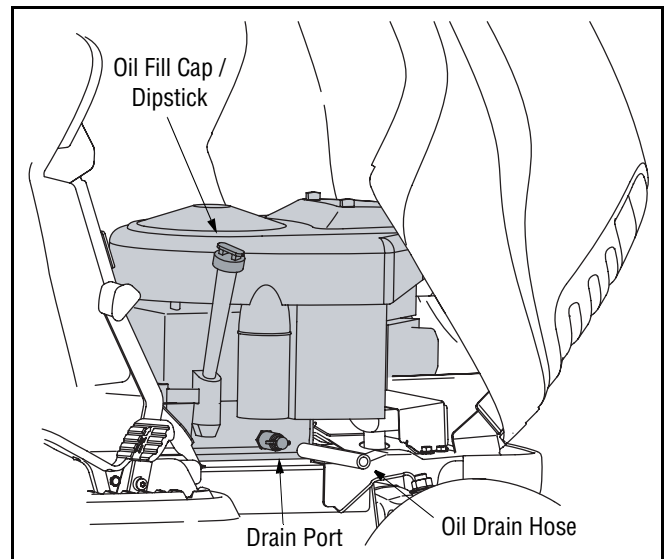

Figure 13
- Pop open the protective cap on the end of the oil drain valve to expose the drain port. See Figure 13
- **Slowly** pour oil into the fill tube. Fill the crankcase until the oil level reaches the full (F) mark on the dipstick (Refer to Figure 13 on Page 19).